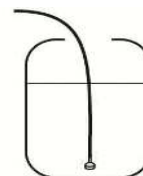

Fig.8
- 3- Insert the dispenser tube inside the detergent or rinse aid tank. (if available). (Fig.8)
The setting of rinse aid dispenser is performed by adjusting the screw which is accessible after removal of the front panel under the tank door. (see Fig.8)